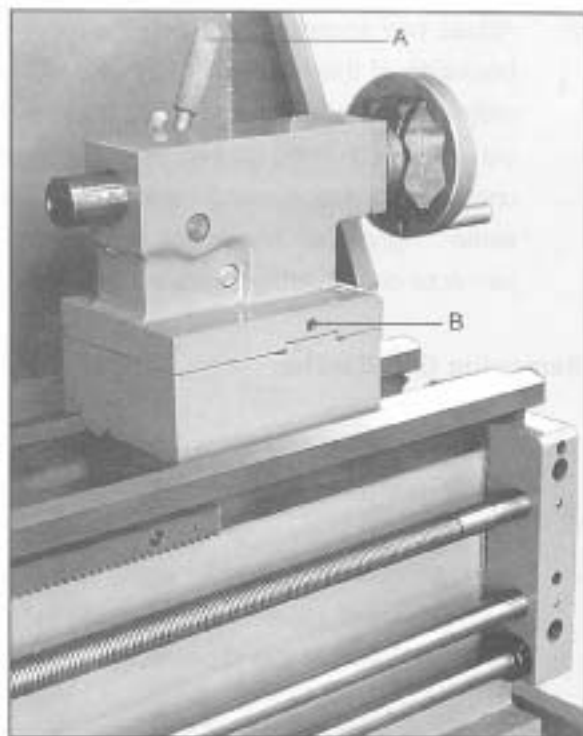

Fig. 19
1. Lock tailstock in position by raising clamping lever (A, Fig. 19).
2. Alternately loosen and tighten front and rear setscrews (B, Fig. 19) until desired offset is indicated on scale.
3. Tighten both set screws (B, Fig. 19).